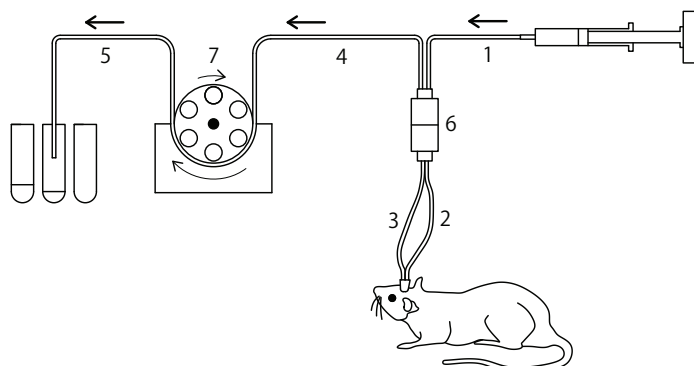
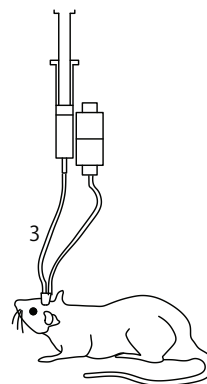

Fig. 3 Tubing Diagram
Fig. 4 Removing Clog
Connect all tubing as shown in Figure 3. Table 1 shows the model names of tubing, size, material and approximately internal volume of each tube shown in Fig.3. The tubing between the probe and peristaltic pull pump has to be 0.25 mm ID to allow smooth withdrawal of the sample.
Both the syringe and peristaltic pumps should still be stopped and flow rate settings of the syringe pump is at 10 µL/min and ERP-10 is showing "0200". Remove the bypass where the probe will be placed and connect the inlet and outlet. Start the syringe pump and start the peristaltic pump immediately after confirming a little leak from the vent holes. Pay attention there might be a lag time on the syringe pump caused by a mechanical play, see section 6. Confirm that an air segment no larger than approx. 5 cm (= 2 inch, 2.5 µL) has entered the outlet tubing. (see #3, #4 or #5 on Fig. 3).
- Clogging mostly happens on the tubing #3 or outlet of the probe after the vent. if it happens. To fix, please disconnect the swivel and replace to a 1 mL syringe containing water at the tubing #3 out (see Fig.3 and Fig 4). Then infuse water toward the probe via tubing #3. The flush will come out from the vent and you can use water.